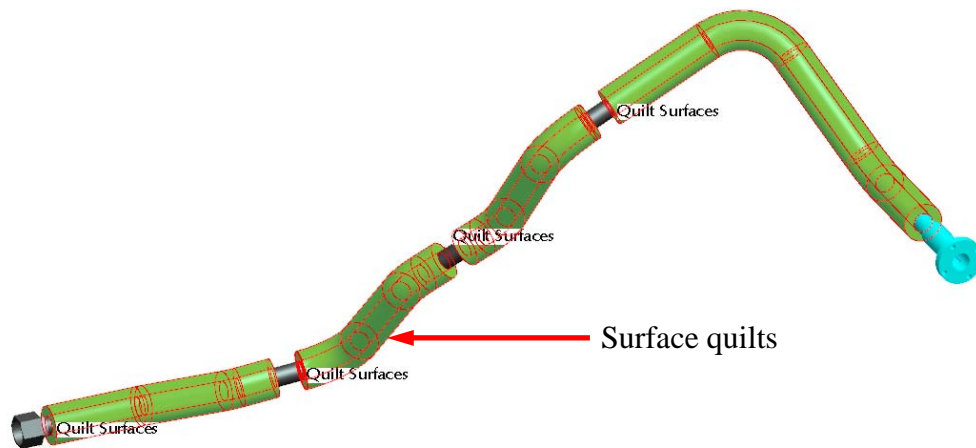

Figure 15
- Pick the surface quilt of the Insulation. If this is a bulk item insulation, hold down the “Ctrl” button and pick on every quilt surface that is being referenced by this insulation part. (See Figure 15)